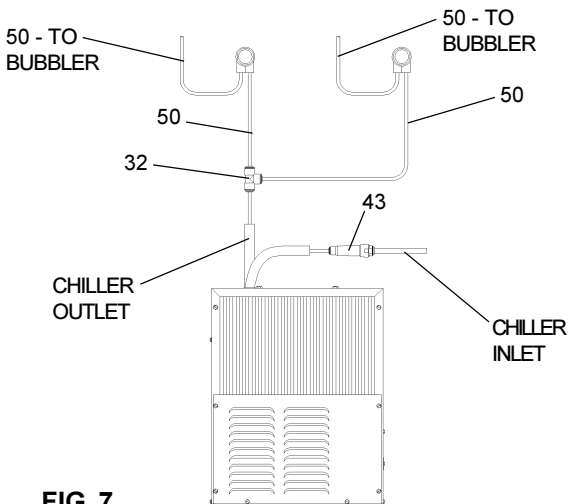

FIG. 7
3. **ERPA MODELS:** Make connection between remote chiller and building supply line. Inlet port is marked on the chiller (1/4" O.D. copper tube). Bend the copper tube (provided) at an appropriate length from chiller to opening in frame. Install the in-line strainer (provided with chiller) by pushing it in until it reaches a positive stop, approximately 3/4" (19mm) on the marked chiller inlet port. Connect building supply line to strainer. **DO NOT SOLDER TUBES INSERTED INTO THE STRAINER AS DAMAGE TO THE O-RINGS MAY RESULT.** (See Figure 7).
5. **Install** the fountain. Remove access cover plate on underside of fountains and save the screws. Mount the fountain to the upper panel and the wall frame with (4) 5/16" x 1 3/4" (44mm) long bolts and nuts (provided). Install spacers on bottom two bolts. Tighten securely.
7. **ERPA MODELS:** Make connections between remote chiller outlet tube and fountains. Outlet port is marked on the chiller (1/4" O.D. copper tube). Install a 1/4" tee (provided) on the marked chiller outlet port. Insert the 1/4" poly tubing coming from the fountains into the tee. Turn on water supply and check for leaks. **DO NOT SOLDER TUBES INSERTED INTO THE TEE AS DAMAGE TO THE O-RINGS MAY RESULT.** (See Figure 7).